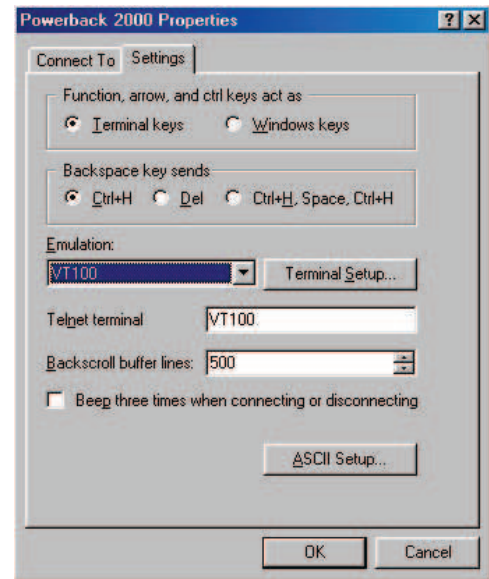

Figure 26
Step 8: The *[Name of Unit]* Properties screen appears (Figure 26).
Step 11: Click **OK**. The *[Name of Unit]* properties window (Figure 26) reappears.